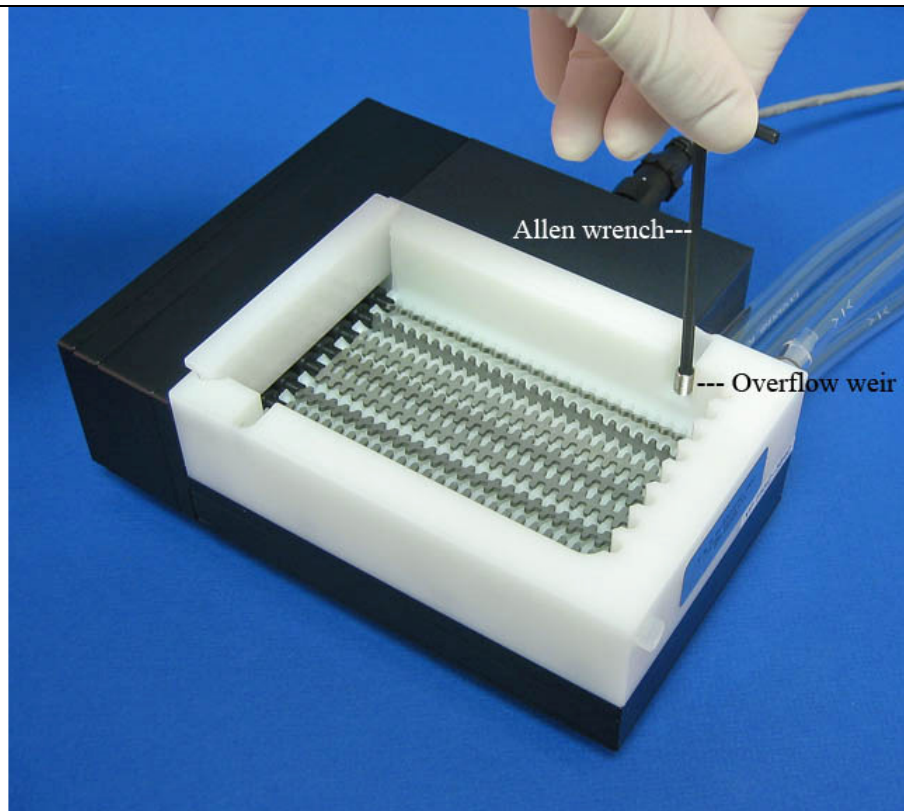

Figure 5. Illustrates the placement of the inlet plug in static operational conditions.
5. The inlet opening in the reservoir can be closed for static operation by screwing the set screw opposite the inlet opening so it blocks the opening as shown in Figures 5 and 6.